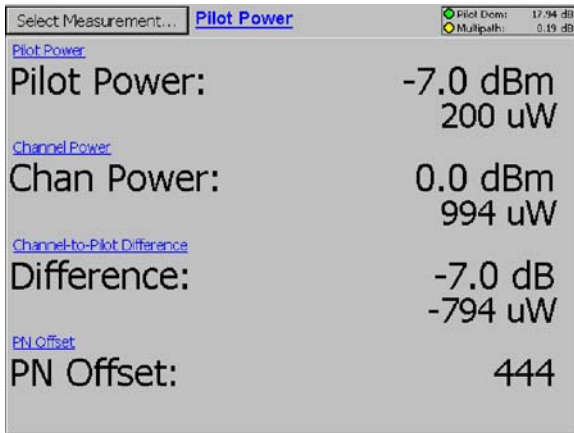

Figure 3-61: A typical cdmaOne/cdma2000 Pilot Power display
4. Tap **Pilot Power**. See Figure 3-61.